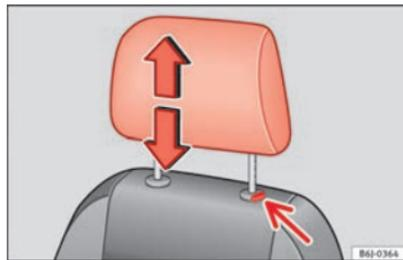

Fig. 86 Adjusting and removing the head restraints.
- Press the button ⇒ Fig. 86 (arrow).